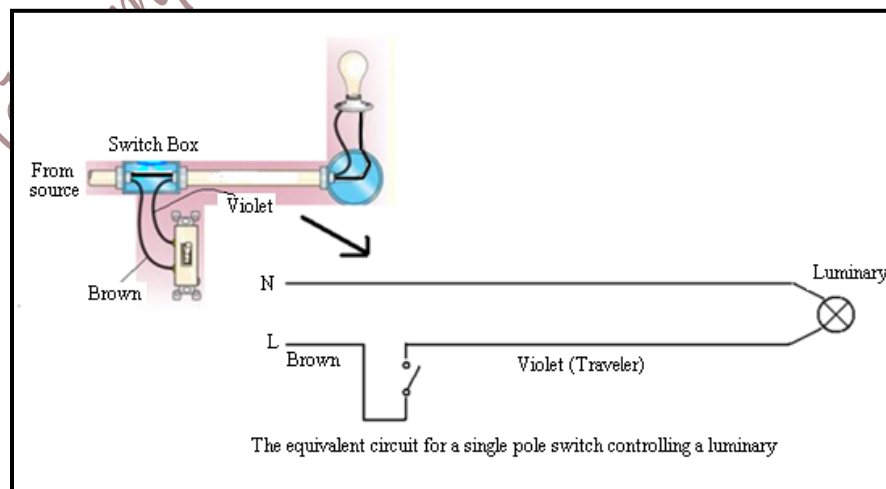

Figure 9.4: Wiring for a single pole switch controlling a luminary
The source of supply for single-pole switches should be coming from the Distribution Board (DB). In this case, the branch circuit runs first to the switch (connection) box and then up to the lighting, as shown in Figure 9.4.